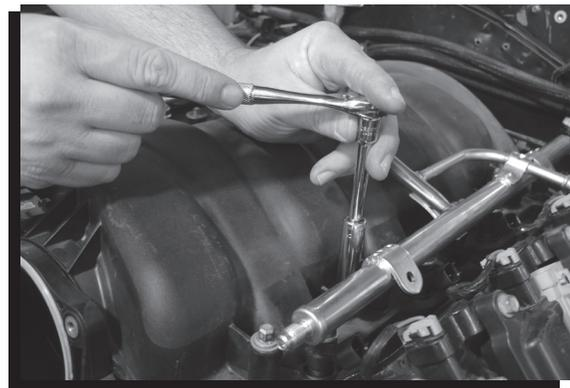

Figure 5 Removing the Intake Retainers.
7. Remove the 10 intake bolts using an 8mm socket and wrench. It may be necessary to disconnect the brake booster vacuum line and any vacuum operated accessory hoses in the rear of the manifold prior to lifting the intake off the engine. Use care not to let anything fall into the engine and cover the intake ports (Figure 5).